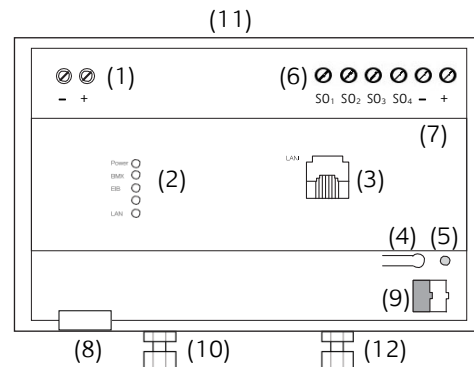

Figure 1: EIBPORT – Connection diagram
- For KNX: Connect bus line with the bus connecting terminal (figure 1, 9).
- For EnOcean: Connect antenna for SMA female connector for EnOcean antenna (figure 1, 10).
- For GSM: Connect antenna for SMA female connector for GSM antenna (figure 1, 12). Further explanation see chapter "INITIAL SETUP".
- Connect voltage supply with the screw-type terminal (figure 1, 1) according to label (observe power consumption).
- Plug network line (LAN) in the RJ45 female connector (figure 1, 3).